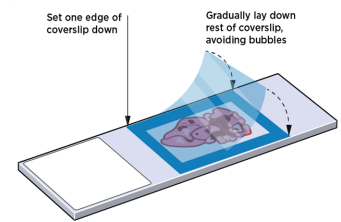

Figure 40: Apply Incubation Frame Cover
- Carefully apply incubation frame cover (Figure 40). Start by setting one edge of the cover down on the incubation frame edge, then gradually lay down the rest of the cover. The tab on the incubation frame cover should face the slide label. As it's lowered, the frame cover should naturally adhere to the incubation frame; no additional pressure around the frame is needed. **Do not press the center of the cover as it could damage the tissue.**